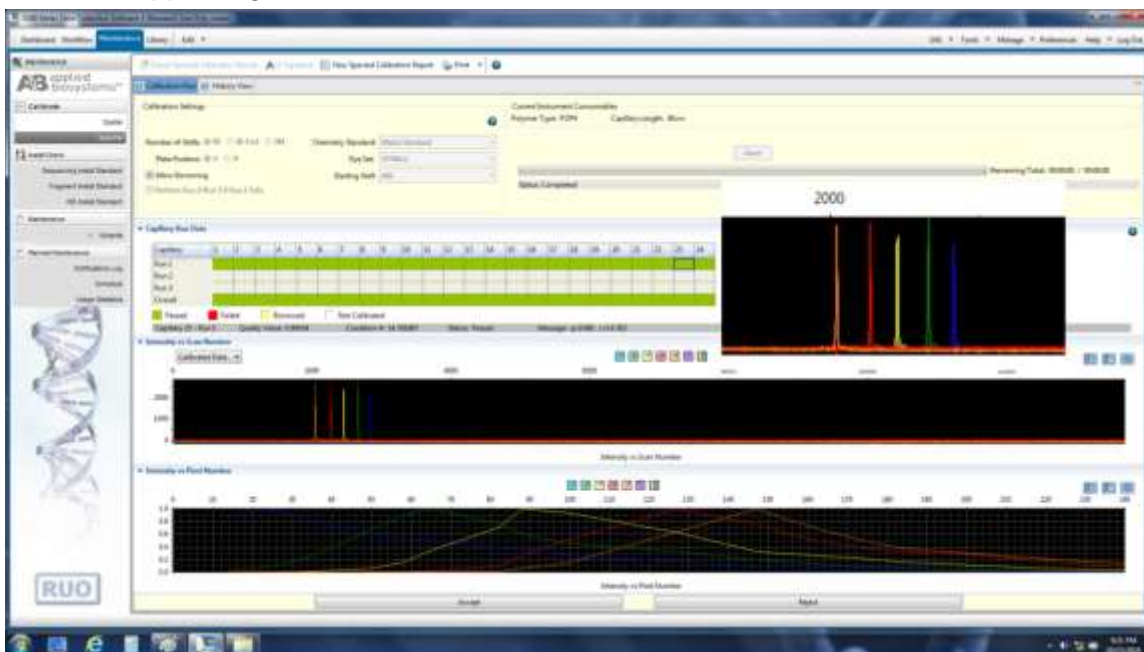

Figure 3. An example of a successful spectral calibration with GT 5 Dye system on Applied Biosystems® Genetic Analyzer 3500xL
- The Dashboard screen (Figure 3) is launched when 3500 Data Collection Software is opened. Click the Refresh button to make sure that all the information on the Dashboard is up to date. Make sure that the Maintenance and Consumables notifications are acceptable.